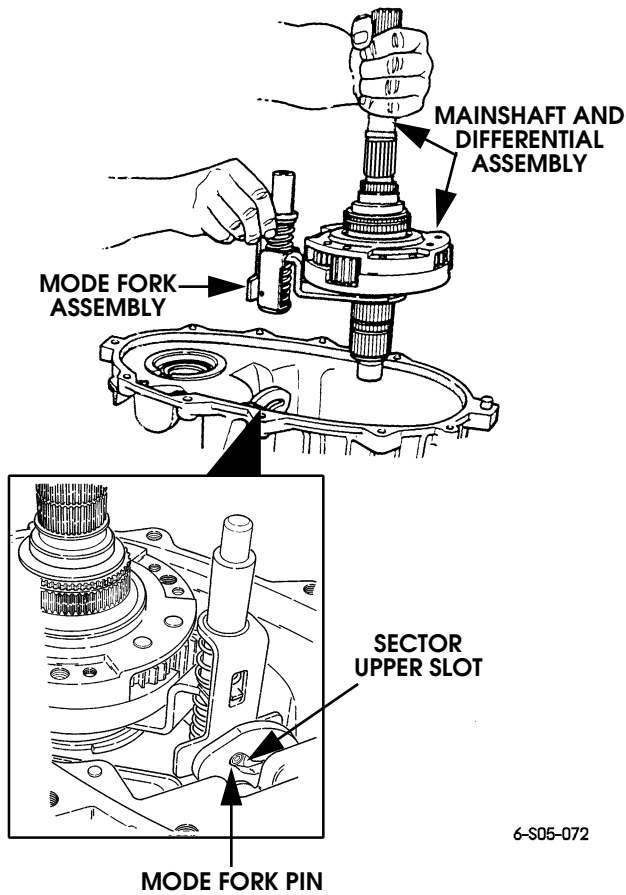

Figure 5-152: Mainshaft, Differential, and Mode Fork Installation
17. Install assembled mainshaft, differential, mode fork, and sleeve. Be sure mainshaft is seated in input gear pilot bearing and that mode fork pin is seated in upper slot of shift sector as shown (Figure 5-152).